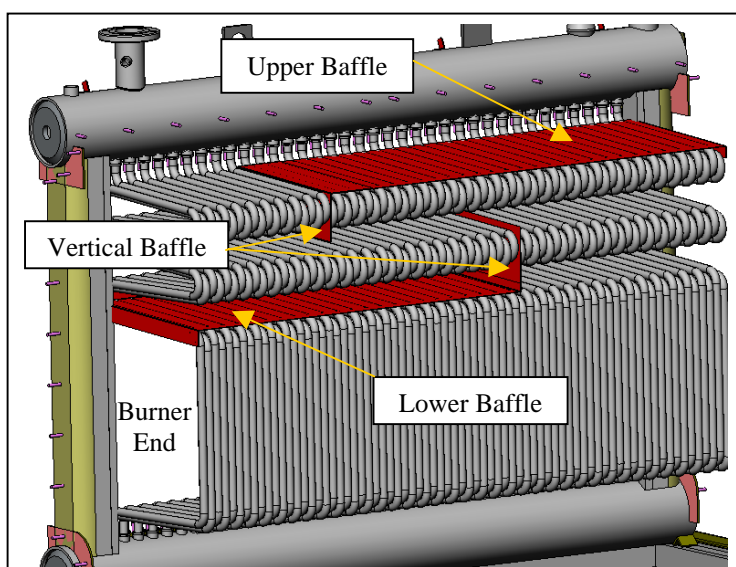

Figure 8
- 2.6 Place the lower tube baffle in position on the last pass of tubes at the front end (burner end) of the boiler. The flange on the lower baffle must be hooded over the front tube. See Figure 8.
2.7 See Figure 8 & 9 for vertical baffle location. Figure 9 also displays all AB Series baffle placement. The arrows indicate the path of flue gas through the boiler.